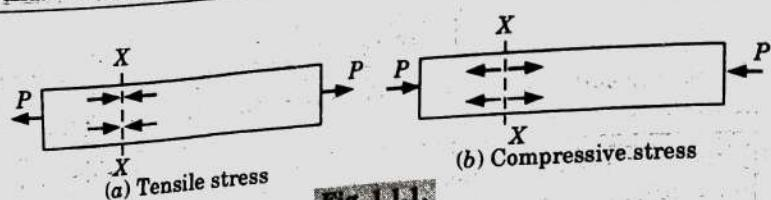

Fig. 1.1.1.
1. The stress induced in a body, when subjected to two equal and opposite pulls as a result of which there is an increase in length, is known as tensile stress (Fig. 1.1.1(a)).
1. The stress induced in a body, when subjected to two equal and opposite pushes as a result of which there is a decrease in length of the body, is known as compressive stress (Fig. 1.1.1(b)).